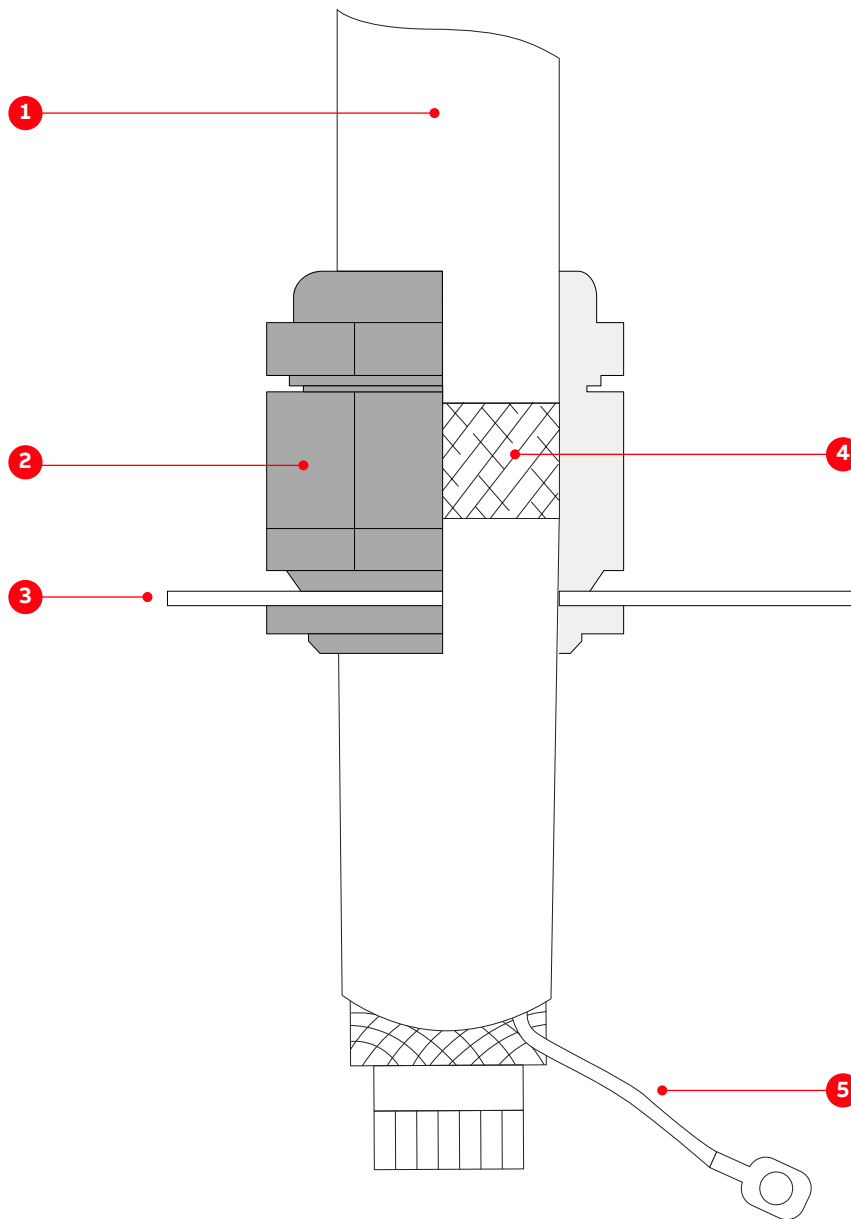

Figure 7-16: Preparing control cables for cable glands
- Prepare the cables with an outer cable screen for EMC bonding with the metal enclosure of the cabinet as illustrated in Fig. 7-16.